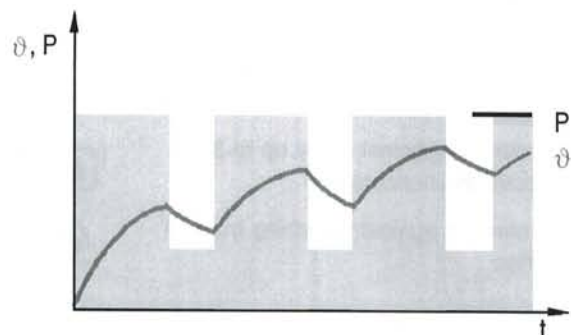

Fig. 1.8.4 Continuous operation S6
- In **continuous operation with intermittent load S6** (see Fig. 1.8.4) the no-load pauses are not sufficient for cooling down the motor.